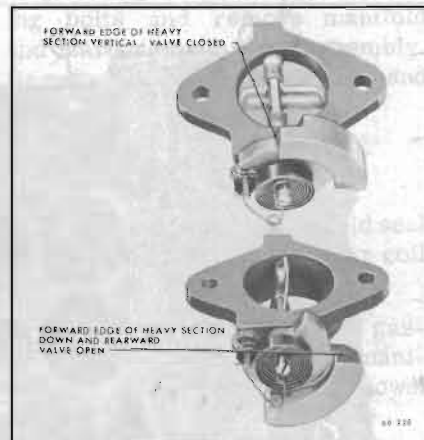

Figure 60-313—Manifold Heat Control Valve
3. Check all anti-rattle and thermostat springs for correct installation. See Figure 60-313.